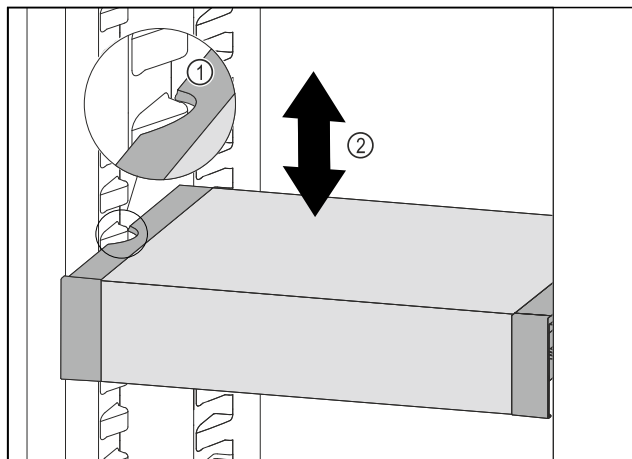

Fig. 131
- Pull VarioSafe forwards until the recesses in the side of the VarioSafe are at the level of the support rib in the refrigerator compartment. *Fig. 131 (1)*
- Move VarioSafe up or down in the refrigerator compartment until the desired height is reached. *Fig. 131 (2)*